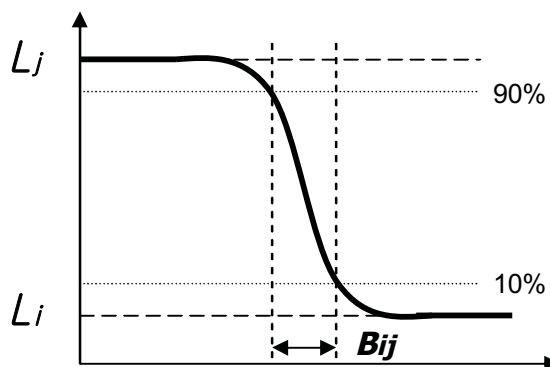

FIG. 4 MPRT
4. MPRT is defined as 10% to 90% blur-edge width B_{ij} (pixels) and scroll speed U (pixels/frame)at the moving picture. For more information, see FIG 4